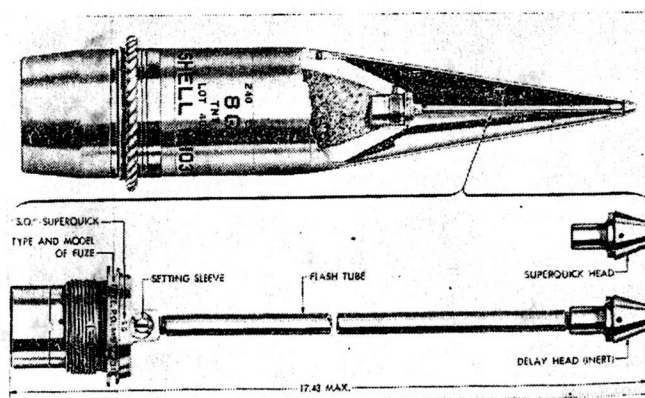

FIGURE 11.—H.E. projectile, M103, with P.D. fuze, M51-Mod. 1.
b. The high-explosive shell is fitted with Fuze, P.D., M51A1-Mod. 1 or Fuze, P.D., M51-Mod. 1 (fig. 11). The fuze, as received, is arranged for delay action. Delay action requires that the delay head (inert) be used. Superquick action is obtained when the superquick head is used in place of the delay head. The superquick head, which contains a firing pin and primer, is shipped in a separate container but in the same packing box as the shell. The delay head is made of solid brass, whereas the superquick head is closed with a disk of aluminum, crimped in place. The delay action is always operative; hence, if the fuze is arranged for superquick action and this action should fail, the fuze will still function with delay action.
- (1) Unscrew the delay head from the point of the projectile with the fuze wrench provided for that purpose.
- (2) Assemble the superquick head in place of the delay head and tighten with the fuze wrench.